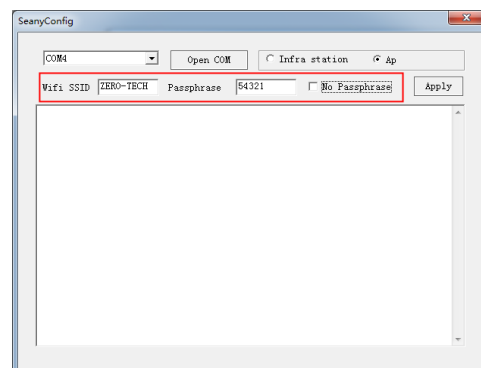

Figure 6
6. Uncheck “No Passphrase”; the Wi-Fi password must be five digits; as shown in Figure 6.